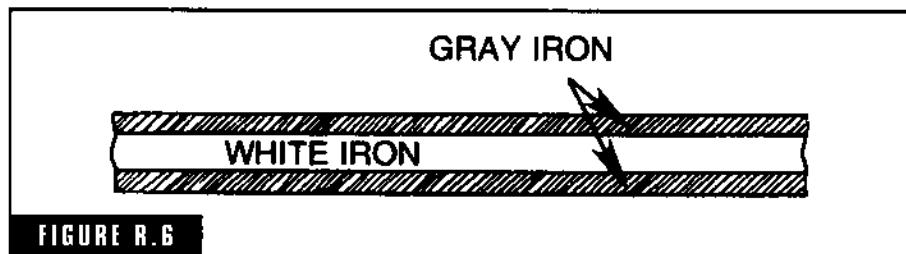

FIGURE R.6
**reverse chill** Also called *inverse chill* (Fig. R-6). The condition in a casting section where the interior is mottled or white iron with a gray iron exterior. It is usually found in thin castings. The usual cause is the presence of nonferrous metals in the iron such as antimony, lead, tellurium, etc., or the casting was poured with a too-high carbon equivalent for the section thickness being poured.